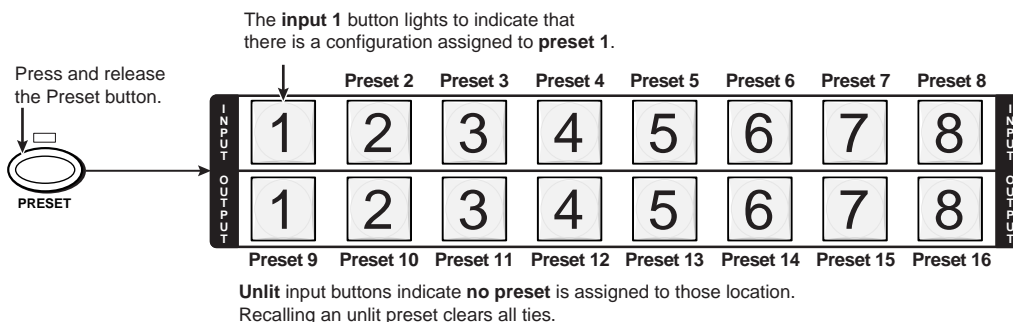

Figure 3-32 — Select recall preset mode
2. Press and release the Preset button (figure 3-32).